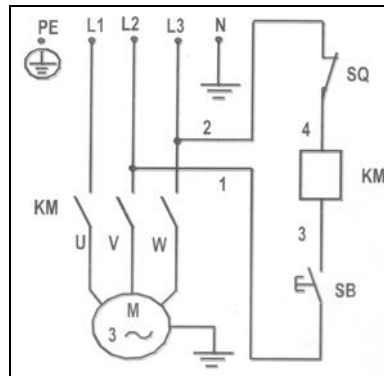

Figure 12 Electrical schematic
7.9 Mount the power unit on the main column motor plate and secure it with bolts and nuts. Connect the power cables according to the electrical schematic diagram of the hydraulic system shown in Figure 12. During initial installation, use a lift machine. When wiring, ensure the motor rotates clockwise. Incorrect rotation direction may cause gear pump wear if prolonged. Power cable requirements for installation: Three-phase power core wires must be at least 2.5mm², and single-phase power core wires must be at least 4.0mm².